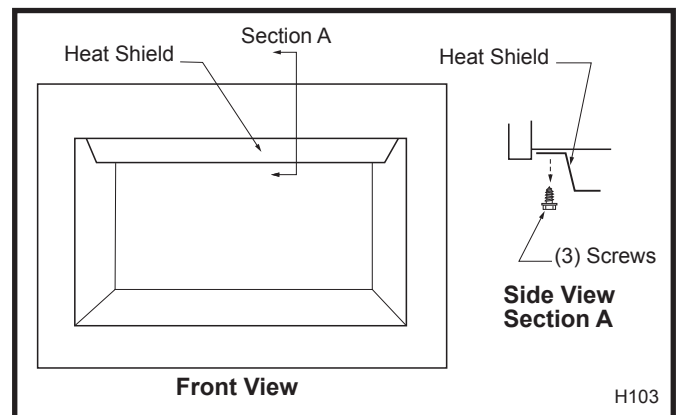

Fig. 74 Heat shield.
3. Remove three (3) screws securing heat shield to combustion dome. (Fig. 74)